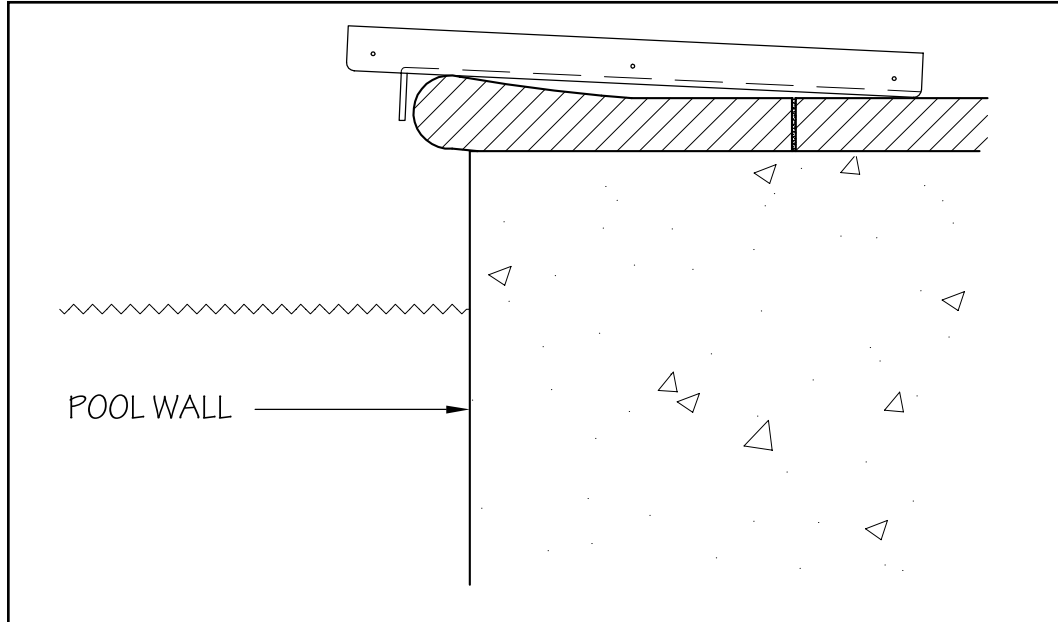

Fig. 8.1
- 8.2 Position the hose cover tray onto the pool deck so that the vertical lip of the tray is seated firmly against the coping. The coping **MUST** fully support the hose cover tray. The tray will be centered to the Fastlane Pro. If the pool has bullnose coping it is acceptable for the hose cover tray to be slightly out of level as shown in Figure 8.1.